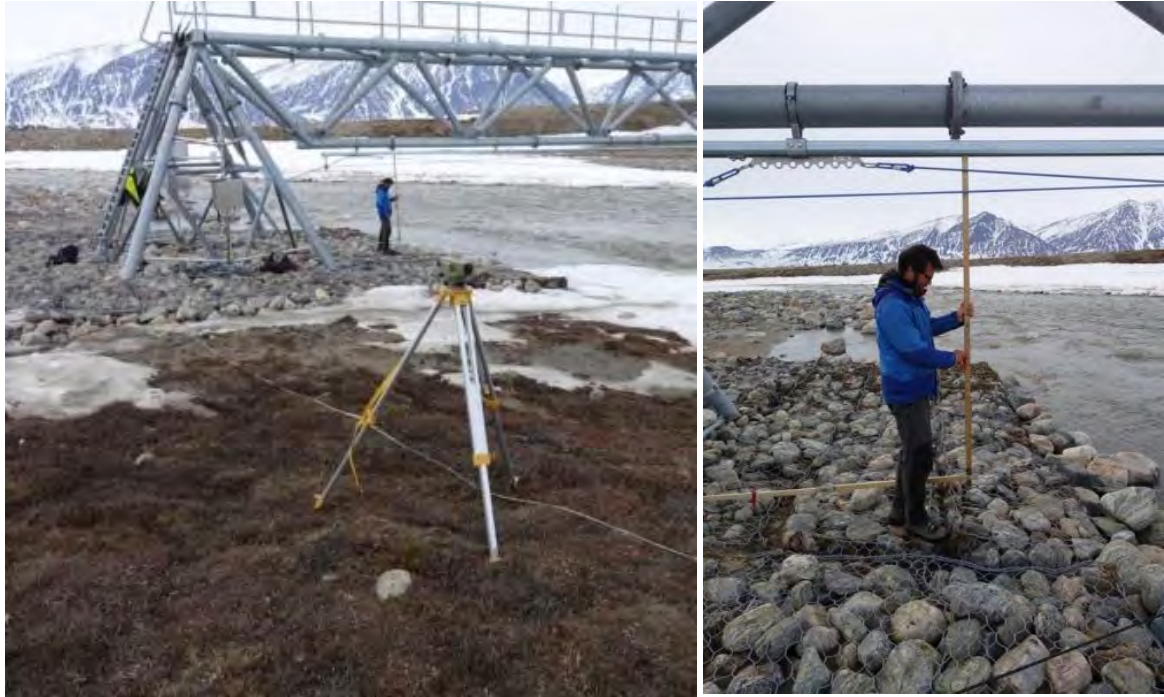

Figure 55: Lineup for levelling of the hoist trolley
1) When levelling the hoist trolley (to which all manual water level measurements are performed see section 8.2.1), you have to place the ruler up side down, as shown in Fig. 55. Make sure that zero on the ruler is above you. In order to do so, you need to bend the ruler as shown in Fig. 55.
2) The tripod has to be placed relatively low in the landscape (Fig. 55) and you can only relate the hoist trolley to fix point 3 (you cannot use the same tripod lineup for both hoist trolley and distance sensor).